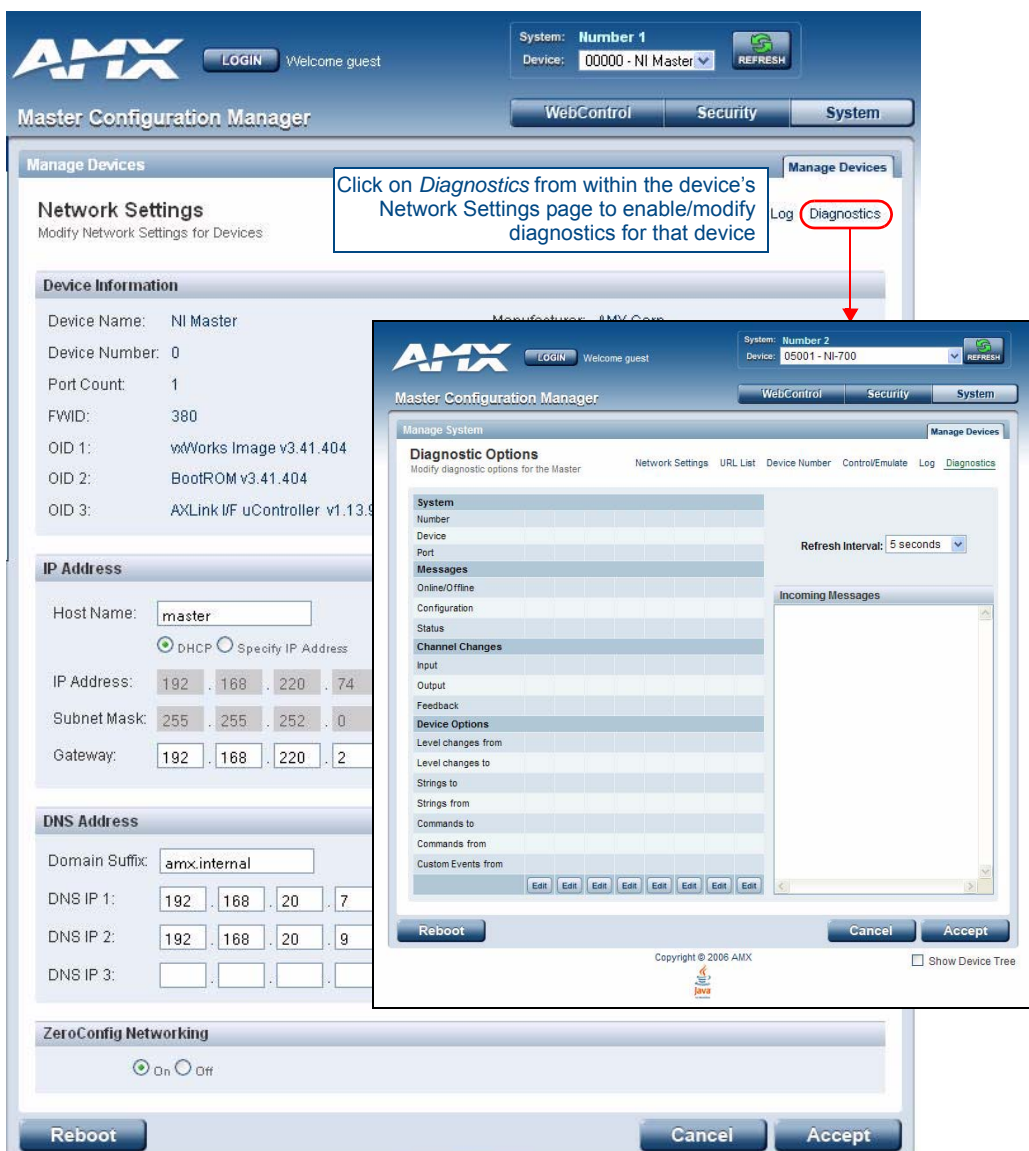

FIG. 51 Select Diagnostics from within a selected Device's Network Settings page
- b. In the Device Tree, click on the Information (i) icon for the device for which you want to enable or modify Diagnostics options. This opens a Network Settings page showing detailed information on the selected device (including network configuration details). An example Network Settings page is shown in FIG. 51:
- c. Click on the **Diagnostics** link. This opens a Diagnostics Options page for the selected device (FIG. 51).
2. By default, all diagnostics are disabled (see FIG. 51). To enable diagnostic messages from this device, click on one of the **Edit** buttons along the bottom of the Diagnostics Options table.